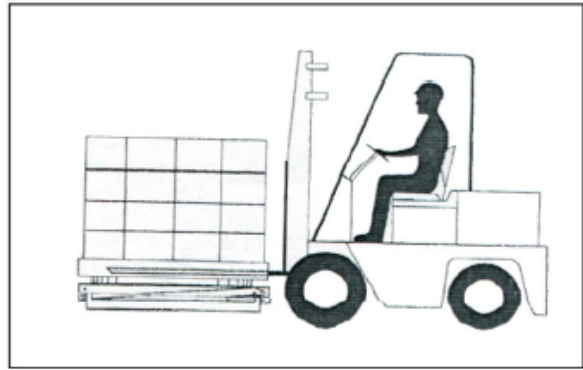

Fig. 10. Loading with a forklift.
1. Place the load on the lift, then lower the fork lift. Before removing the load, be sure the unit is carrying the weight, not the fork lift. See Figure 10.